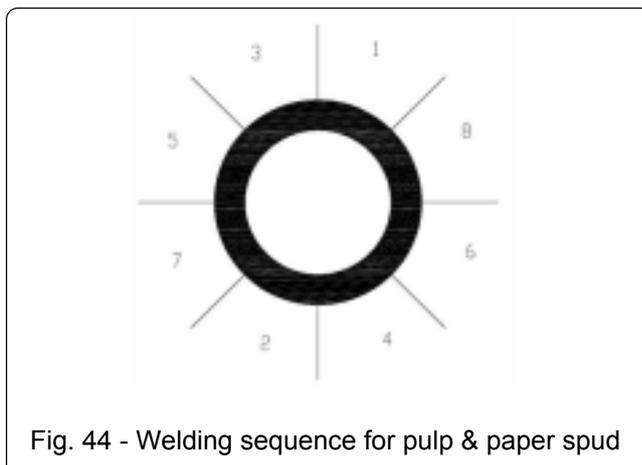

Fig. 44 - Welding sequence for pulp & paper spud
3. Position the weld spud in the vessel hole and start welding. For this important phase, please look at and follow the welding sequence (Figure 44).